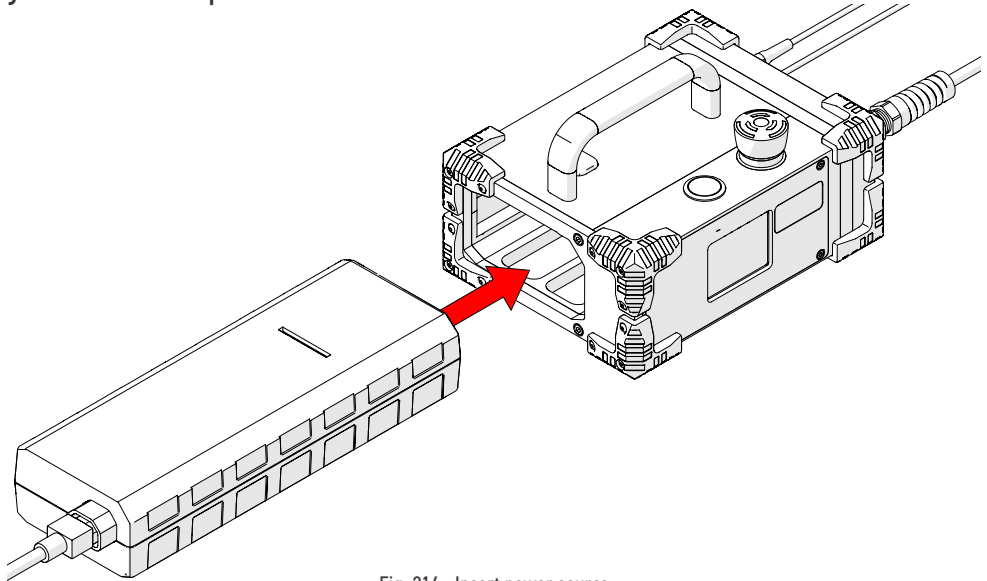

Fig. 216 - Insert power source
1. Insert the power source (Fig. 216) into the power controller dock.